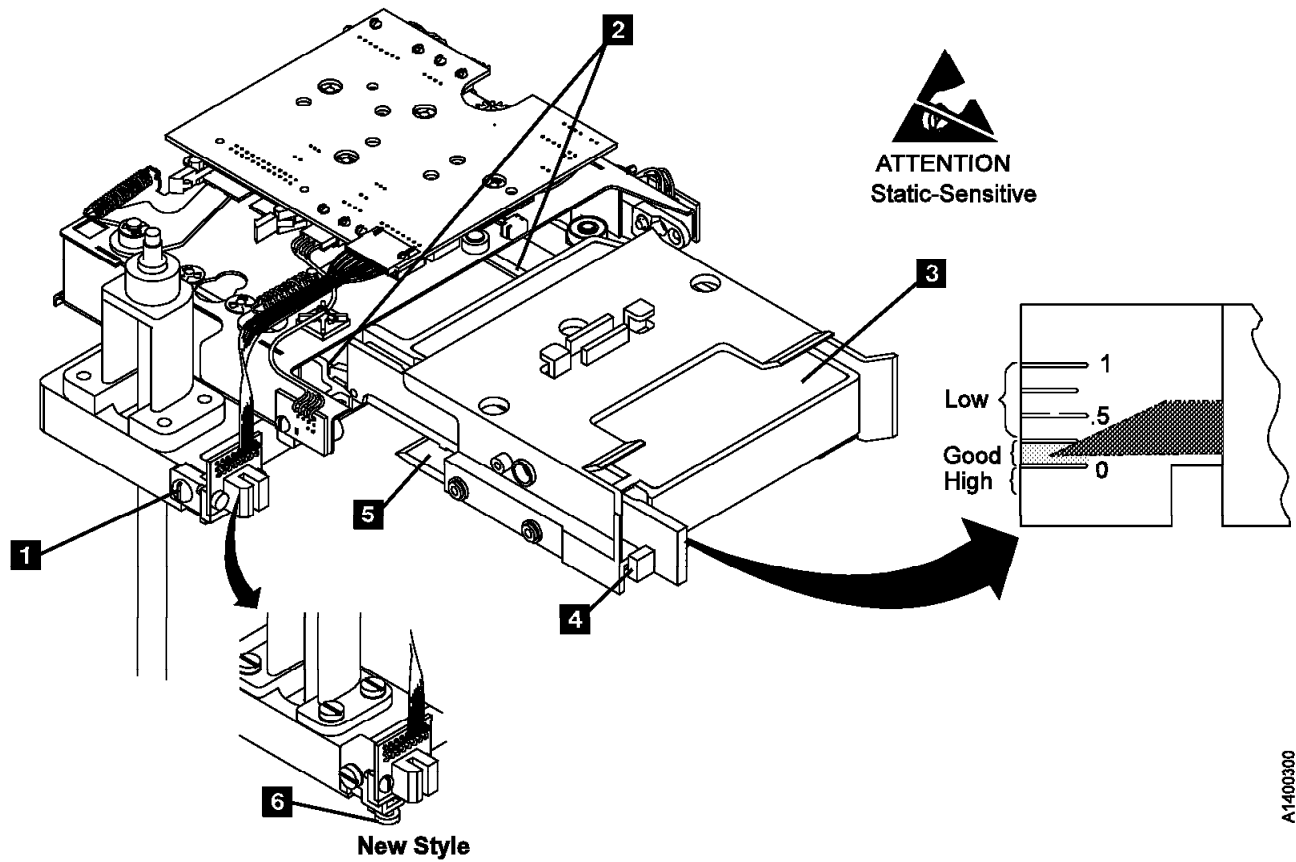

Figure 299. Transport Position Check (With ACF Transport Adjust Tool)
See Figure 299 on page LOC*CAR-29.
Place the tool **3** on the priority cell floor as shown in Figure 299 on page LOC*CAR-29.
10. See Figure 299 on page LOC*CAR-29.
There are two levels of position sensor adjustments. The old level has a locking screw **1** on the side, and the sensor assembly slides up and down in a slot. The new level has an adjusting screw **6** in the bottom of the sensor, that is accessed from the front. See Figure 299 on page LOC*CAR-29.